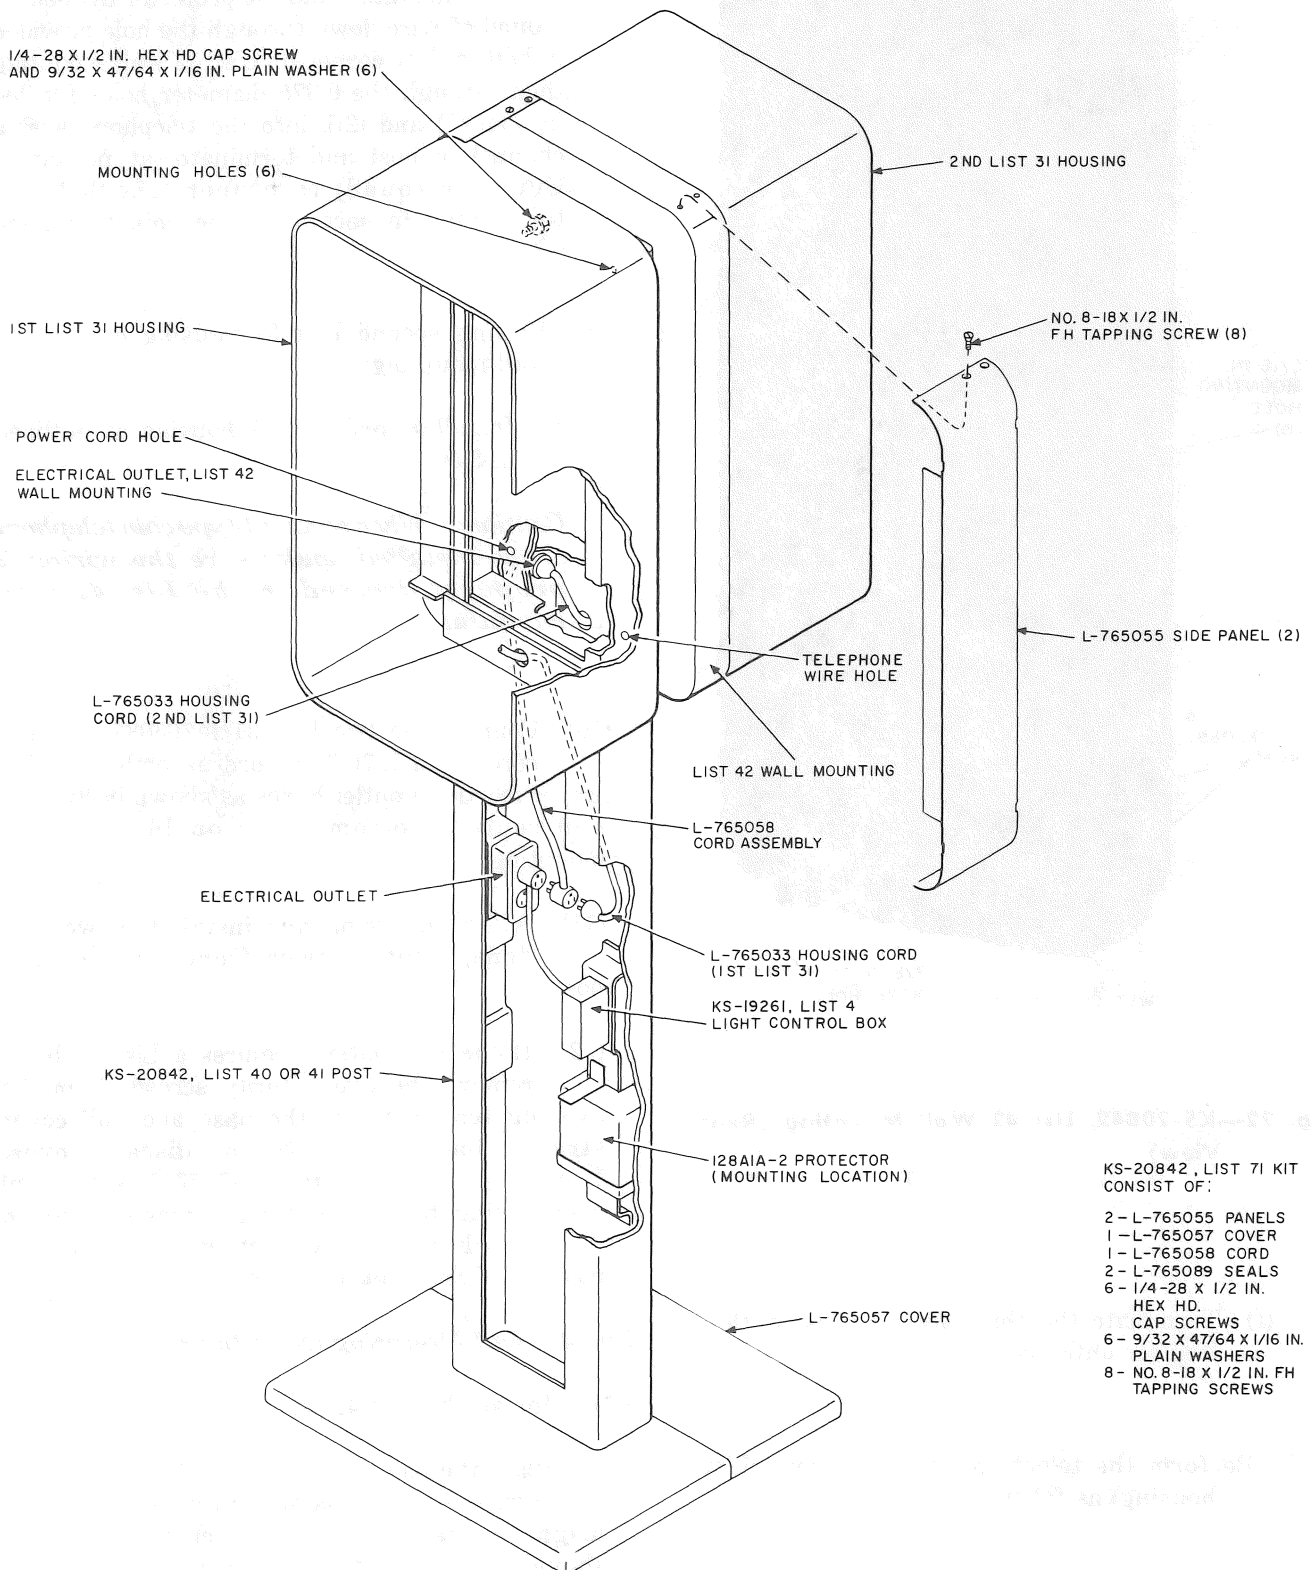

Fig. 21—Installation of Two List 31 Housings, Back-to-Back on One Post
- 3.07** Two List 31 housings may be installed in the field on a single List 40 or 41 Post (Fig. 21).
- (1) Take the List 42 wall mounting and drill six 0.312 diameter holes and two 0.375 diameter holes at the punch marks on the back of the wall mounting (Fig. 21 and 22).
- (2) Drill and tap six (0.250 by 8) holes at upper six punch marks and drill two 0.375 diameter holes at lower two punch marks on back of post. (Fig. 21).
- (3) Install first List 31 housings as outlined in 3.06.
- (4) Take the two L-765089 rubber seals and remove the paper backing from each seal, apply seals to back of List 42 wall mounting over the two lower (0.375) holes drilled in step (1), see Fig. 21 and 22.
- (5) Using the six 0.250-28 by 1/2 hex head cap screws and six (0.281 by 0.734 by 0.063) plain washers, insert the screws through the back of the List 42 wall mounting and screw into the six pre-drilled and tapped holes in back of post and tighten screws.
- (10) Connect the two List 31 L-765033 housing cords and L-765058 cord assembly to the proper electrical outlet boxes as shown in Fig. 21 and replace bottom cover on List 42 wall mounting.
- (11) After all wiring and installation work is done, replace lower front cover on the post.
- (12) If the installation requires a List 50 base, remove the two security screws from the existing rear cover of the base and pull cover straight back to remove and discard cover. Replace rear cover with a L-765057 (extension) cover using the two security screws removed from the discarded cover, otherwise install the post on a List 52 buried base (Fig. 21).